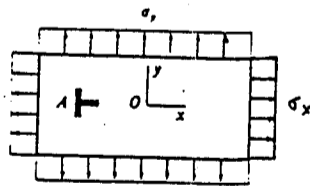

Fig. 4
- Strain gauges oriented in the x and y directions are attached to a thin rectangular steel plate as shown in the Fig. 4. The plate is subjected to uniform normal stresses σ_x and σ_y . The strain gauges give readings $\epsilon_x = 500 \times 10^{-6}$ and $\epsilon_y = 100 \times 10^{-6}$. Assuming that $E=200\text{GPa}$ and $\nu=0.30$, calculate the stresses σ_x and σ_y . (20%)